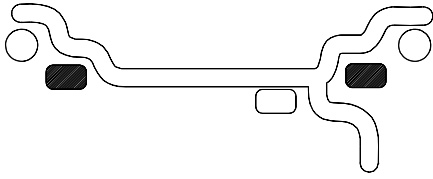

Figure 16 **ALU 1**
**C. ALUMINUM MODES.** Balancing using a combination of hammer-on and adhesive weights as shown in Figures 16 thru 20.